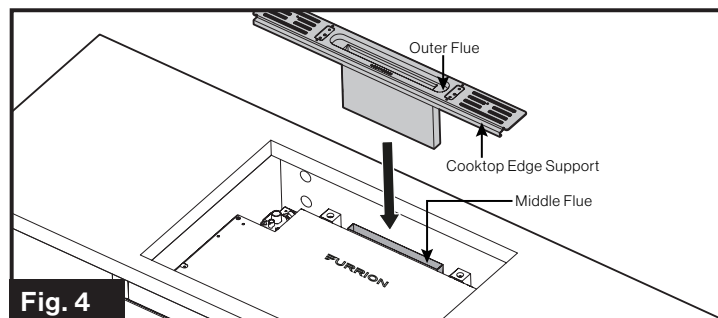

Fig. 4
1. Install the vent outer flue assembly onto the top of the oven unit. Ensure the outer flue slides over the middle flue opening on the oven. Ensure the vent outer flue vent assembly has the cooktop edge support facing forward. (Fig. 4)
The minimum overlap of the vent outer flue and the vent oven middle flue is 3/4". Refer to Fig. 4 for assembly instructions.